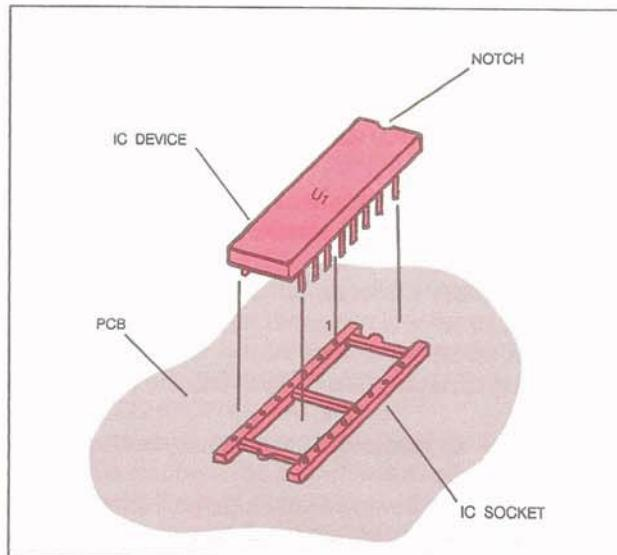

FIG. 77
a. Position the socket over the PC board area marked "U1". Align the #1 pin of the socket with the hole marked "1" on the PC board (See Fig. 77).